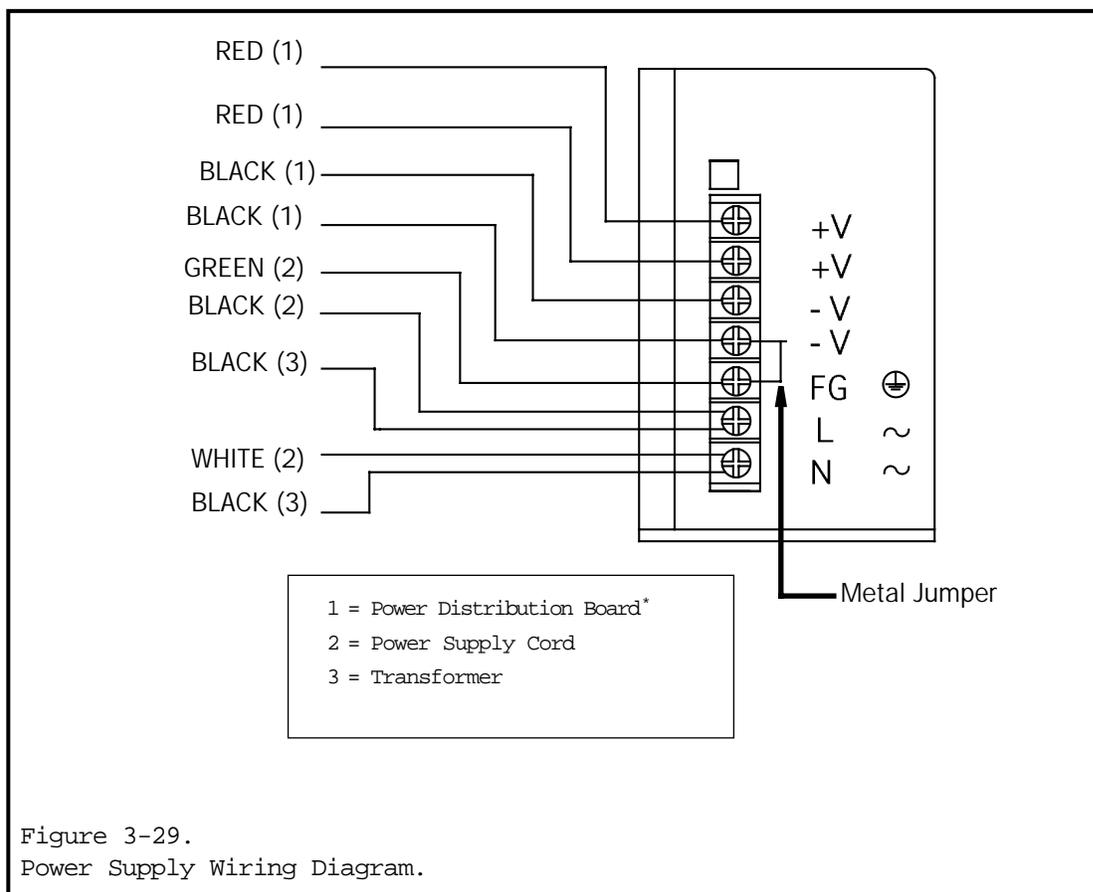

Figure 3-29.
3. Connect all power wires to their appropriate positions on the replacement power supply (see figure 3-29.) Note that all connections on the power supply are labeled. Incoming (input) wires should be wired as follows: green to ground, white to neutral, and black to line. Outgoing (output) wires should be wired as follows: red to positive (+) and black to negative (-).